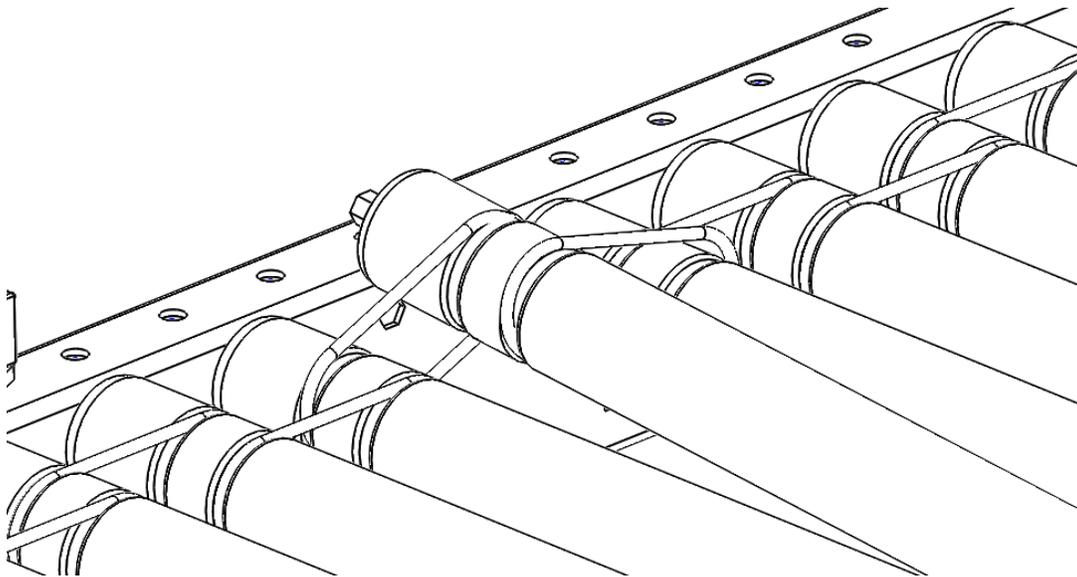

Figure 6: MDR Removal-3
6. Provide upward force on the roller body until the hex is sitting above the side frame. Refer to Figure 6. (A putty knife or other flat surface tool is recommended to be placed between the hex shaft and the inside of the frame. This will help protect the paint on the side frame.)
4. Provide upward force on the roller body until the hex is sitting above the side frame. Refer to Figure 6. (A putty knife or other flat surface tool is recommended to be placed between the hex shaft and the inside of the frame. This will help protect the paint on the side frame.)